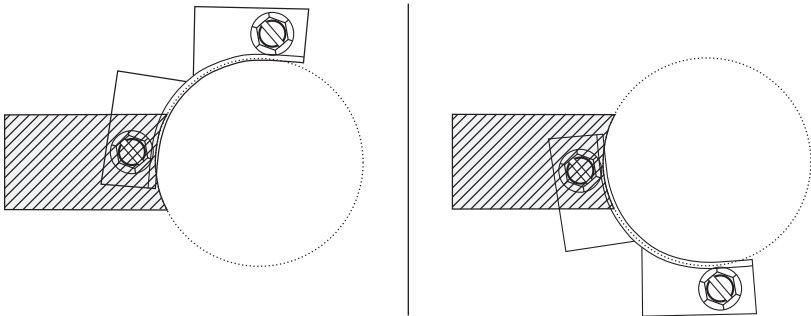

Figure 14
- The light shield may be mounted at virtually any angle. However, when deciding on a suitable location, the mounting screw head cannot be in the shaded area of template (Figure 14).